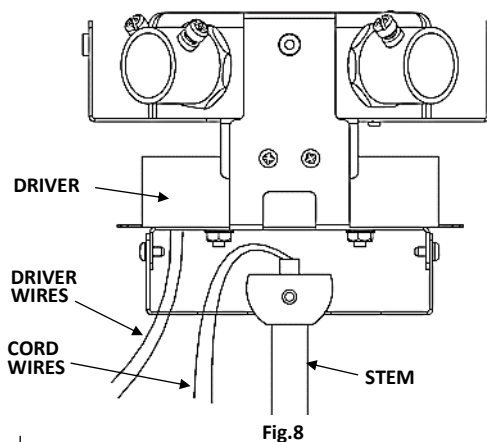

Fig.8
7. CONNECT CORD WIRES TO DRIVER LED WIRES. Fig.8